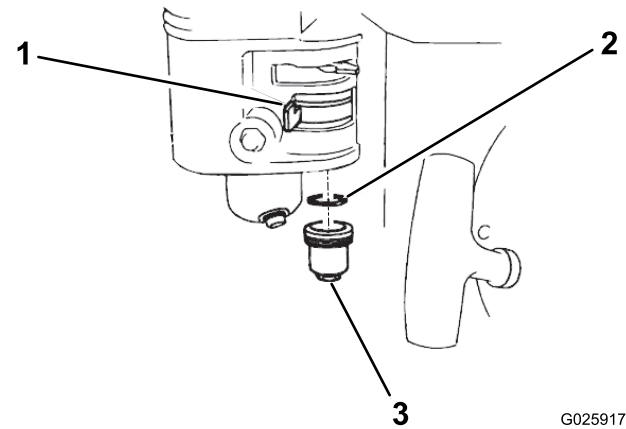

Figure 19
1. Move the fuel valve to the Off position, then remove the fuel sediment cup and O-ring (Figure 19).